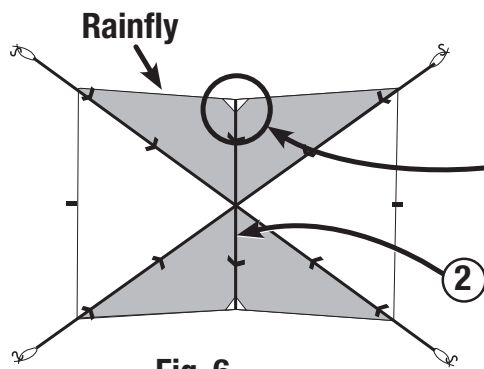

Fig. 6
- Attach top ridge pole to underside of rainfly with straps and insert the tips of the top ridge pole into the pockets on underside of rainfly. (Fig. 6 & 7)